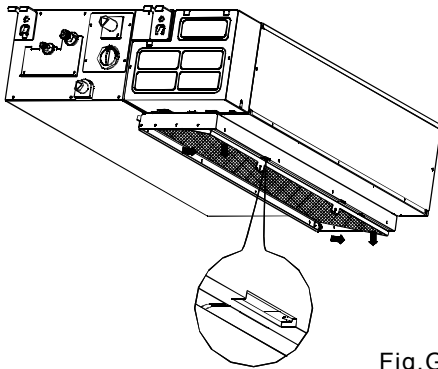

Fig.G2
2. Because the unit is a descensional ventilated model, please push the filter up slightly for the position retainer to be removed from the flange fixed holes, and take off the filter according to the arrow direction shows in the Fig.G2.